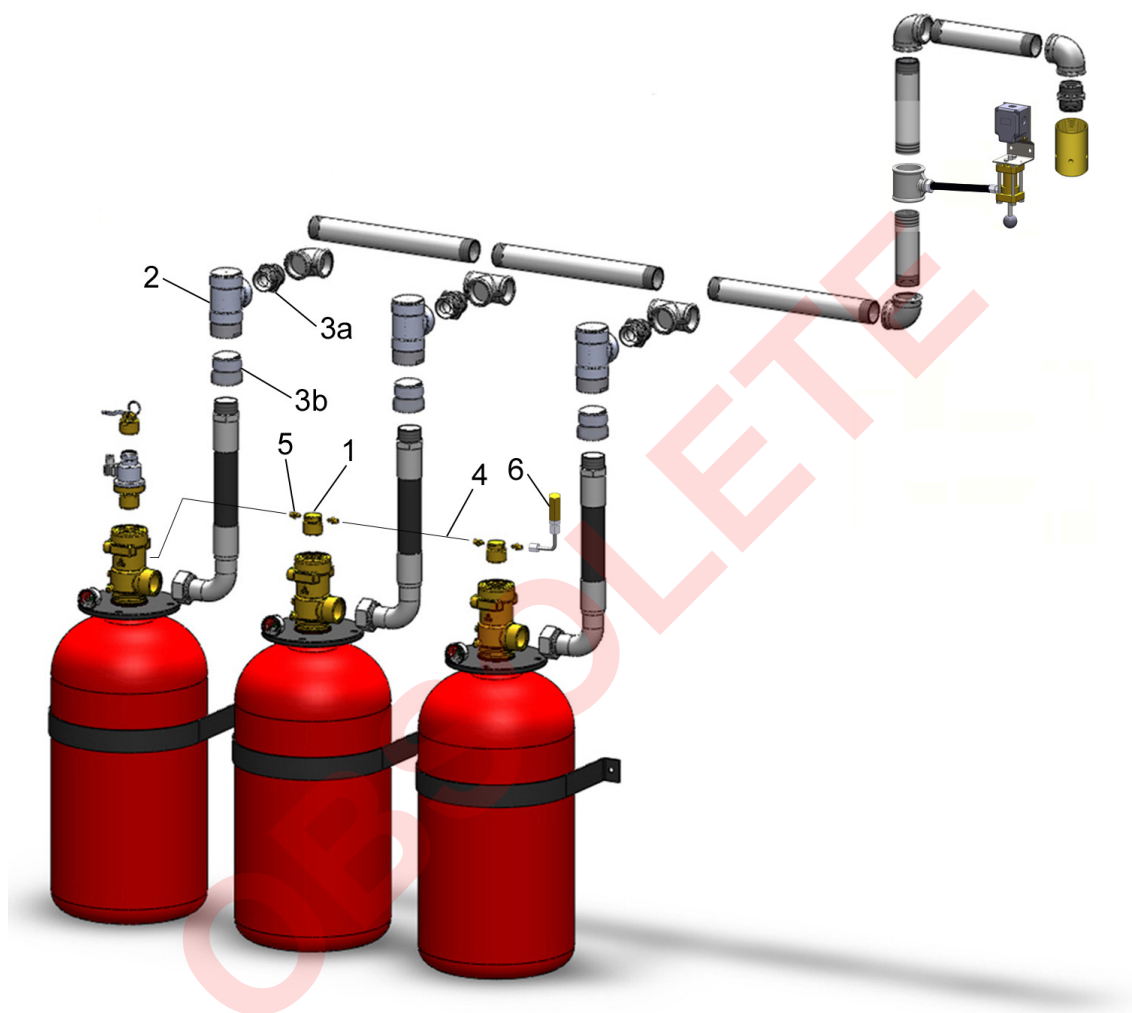

Figure 4: Example of a Complete VK-200™ Fire Extinguishing Multi Container System
**NOTE:** Additional components are required for a Multi Container System. Refer to Table 4a on page 200e and Figure 4 on page 200f.
Additional Components Needed for Multi Container Systems (also refer to Figure 4 on page 200f)